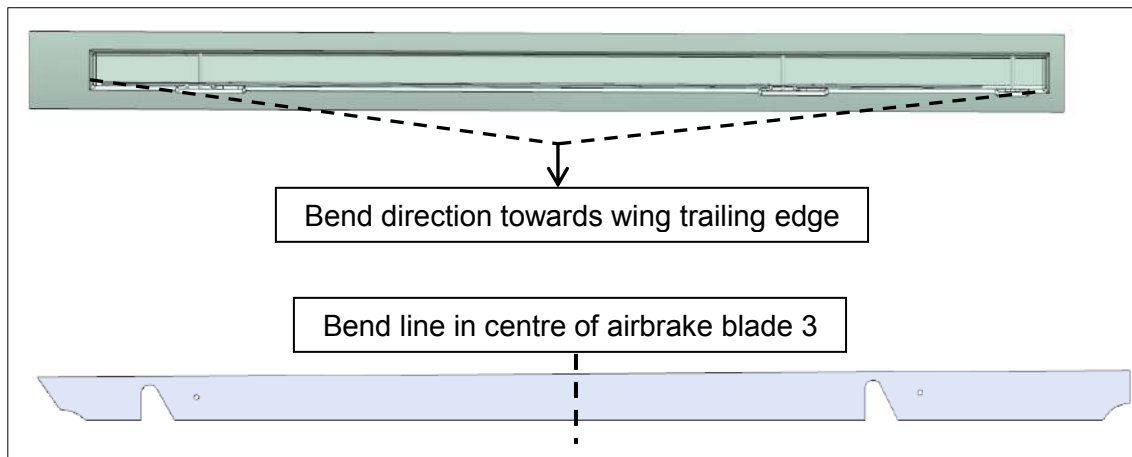

Figure 27-41: Bend airbrake blade 3 in the centre
3. Carefully bend the blade in the centre to form a gentle curve (Figure 27-41). The curve must face towards the trailing edge of the wing (towards the rear wall of the airbrake box).